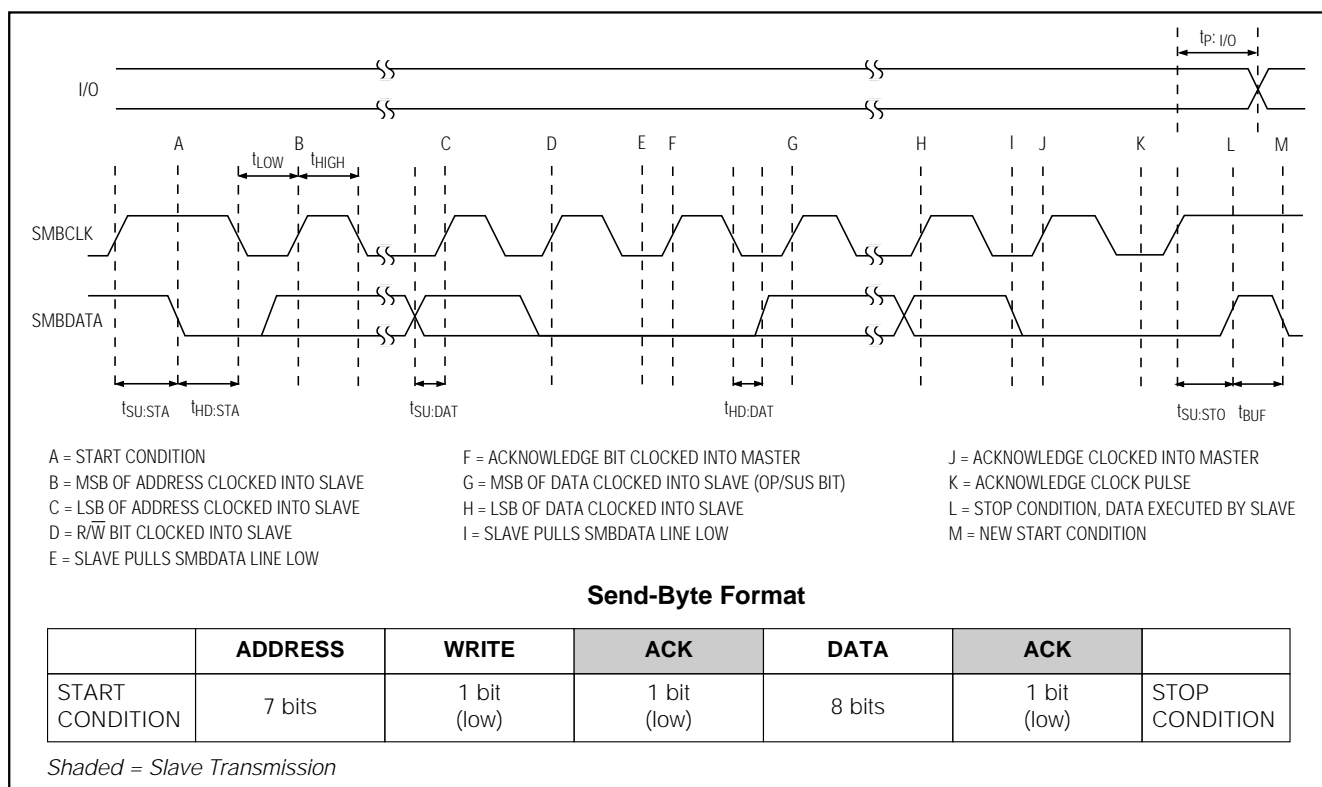

Figure 2a. SMBus Send-Byte Timing Diagram and Format
**Note 4:** Refer to Figures 2a and 2b for SMBus timing parameter definitions (write and read diagrams).
The MAX1661/MAX1662/MAX1663 generates a first acknowledge after the write bit and another acknowledge after the data. It executes the data byte at the rising edge of SMBCLK following the second acknowledge, just prior to the stop condition (Figure 2a). See Table 2 for send-byte operations.